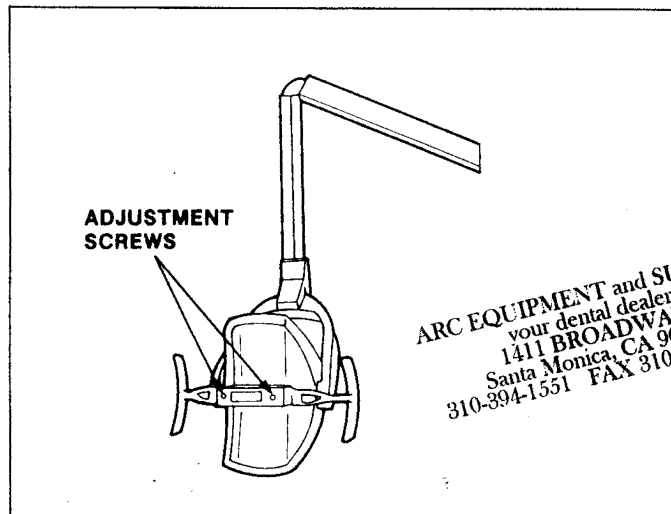

FIGURE 11—ADJUSTMENT SCREWS FOR FOCUSING LAMP
3.04 Focusing Lamp (Figure 11)—To focus the lamp, the following procedure should be performed: